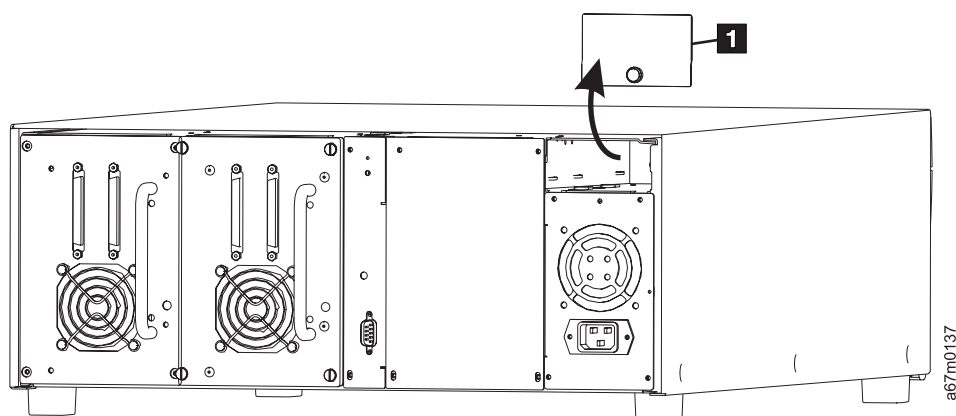

Figure 41. RMU cover plate removal
- ___ 3. From the rear of the library, locate the available RMU slot. Loosen the thumbscrew on the cover plate and remove the cover plate. Store the cover plate (see **1** in Figure 41) in a convenient place; it is required for proper operation and cooling of the library if you later remove the RMU.